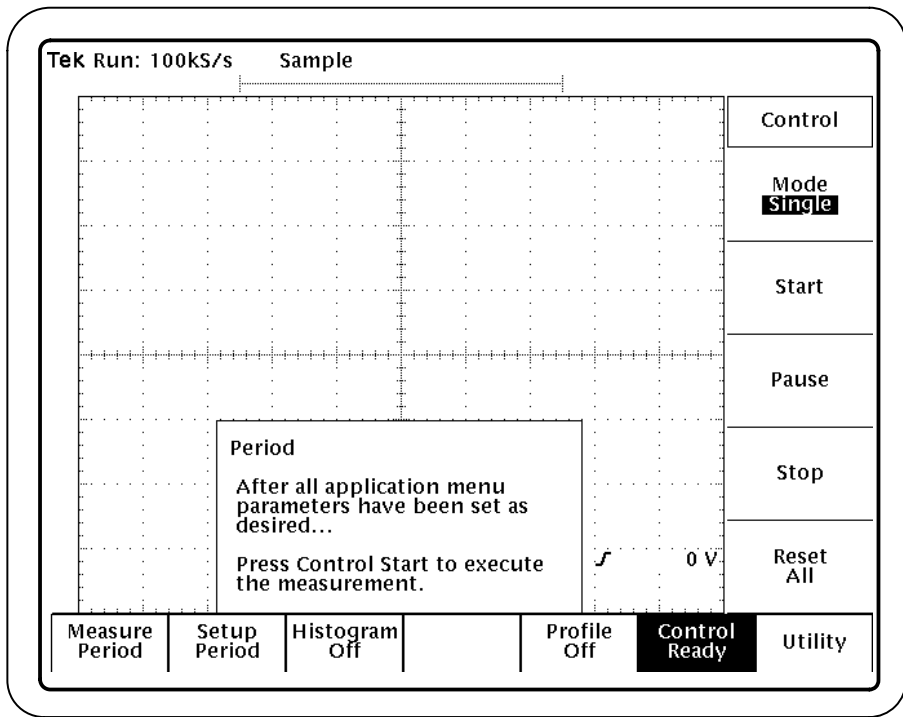

Figure 5: The Control menu
6. Press Control (main). Figure 5 shows the Control menu.